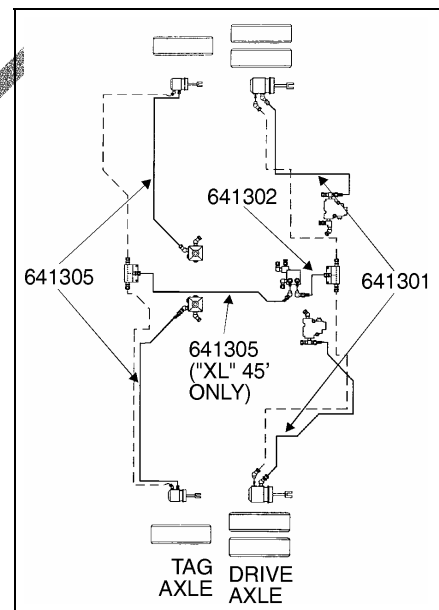

FIGURE 5
B. The hoses that must be changed are identified on figure 5 (part numbers of the hoses that should be used are identified on the figure). Each one should be replaced as described in procedure in step A.
Note: On "XL" 40' vehicle, the hose that is connecting parking brake relay valve and tag axle parking brake manifold block (refer to figure 5) should not be changed.